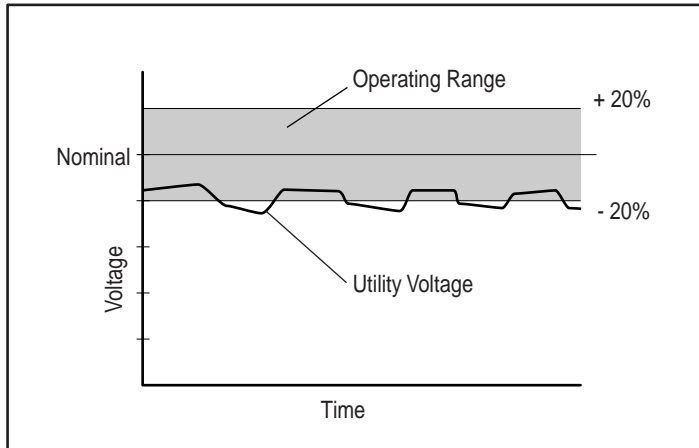

Figure 4-5. Utility voltage fluctuation indicating a shift in nominal voltage range may be necessary
- If the utility voltage differs from the currently configured nominal voltage, but stays within a ± 20 percent band (see Fig 4-5), consider shifting the nominal voltage parameter selection to match the measured utility voltage range.